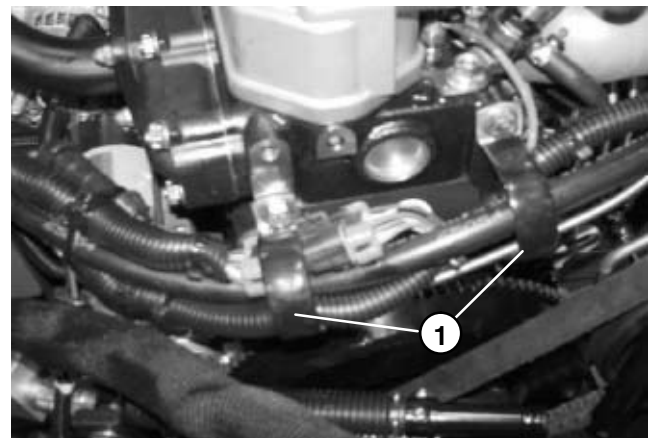

Figure 14
H. Remove cap screws and flat washers from R-clamps (Fig. 14). Position wiring harness and hoses away from the engine.
- A. Pull wiring harness and hoses into position keeping them from contacting moving parts. Route harness and hoses through R-clamps. Install cap screws with flat washers to secure R-clamps to cylinder head (Fig. 14).